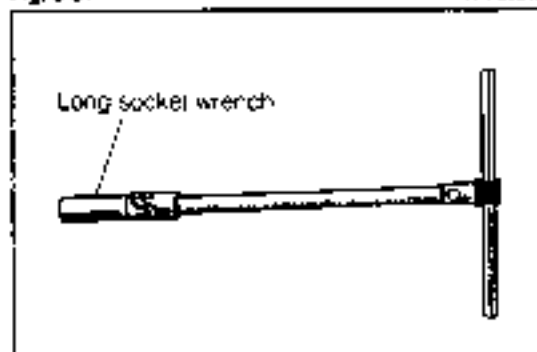

Fig. 8-38
- (1) Remove the four attaching nuts of the brake booster, using a long socket wrench (having a width across flats of 12 mm), as indicated in Fig. 8-38
- (2) Remove the brake booster assembly and gasket from the vehicle.